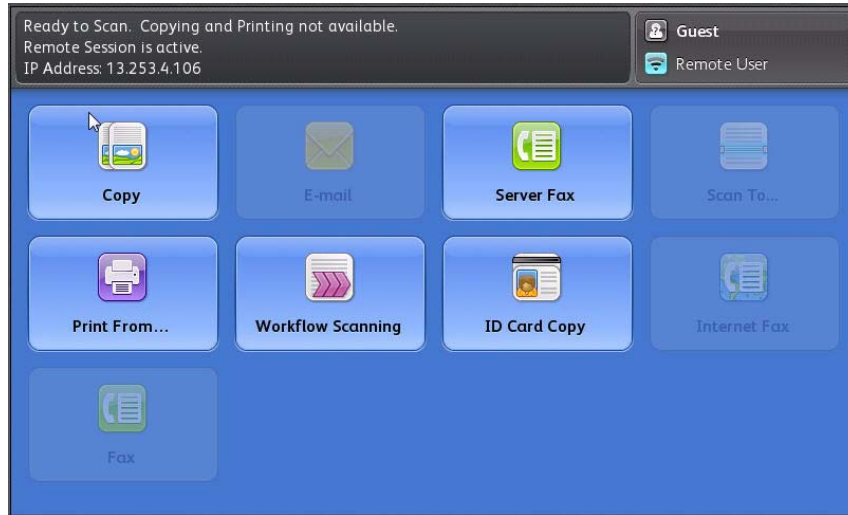

Figure 1 Home screen fault code display
- Error messages and fault codes displayed on the Control Panel as shown in Figure 1.